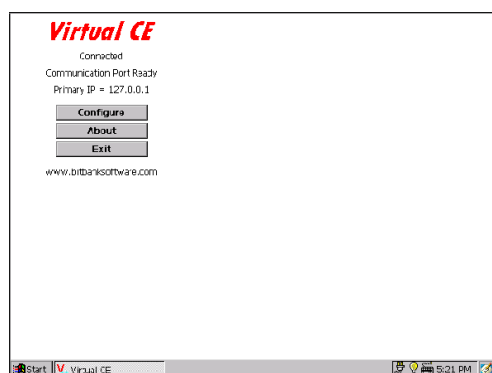

Figure 3-6: Virtual CE running on the NetTek Analyzer
9. On the NetTek Analyzer select **Start > Programs > Communication > Virtual CE**. This starts the Virtual CE Server software on the NetTek Analyzer. See Figure 3-6.